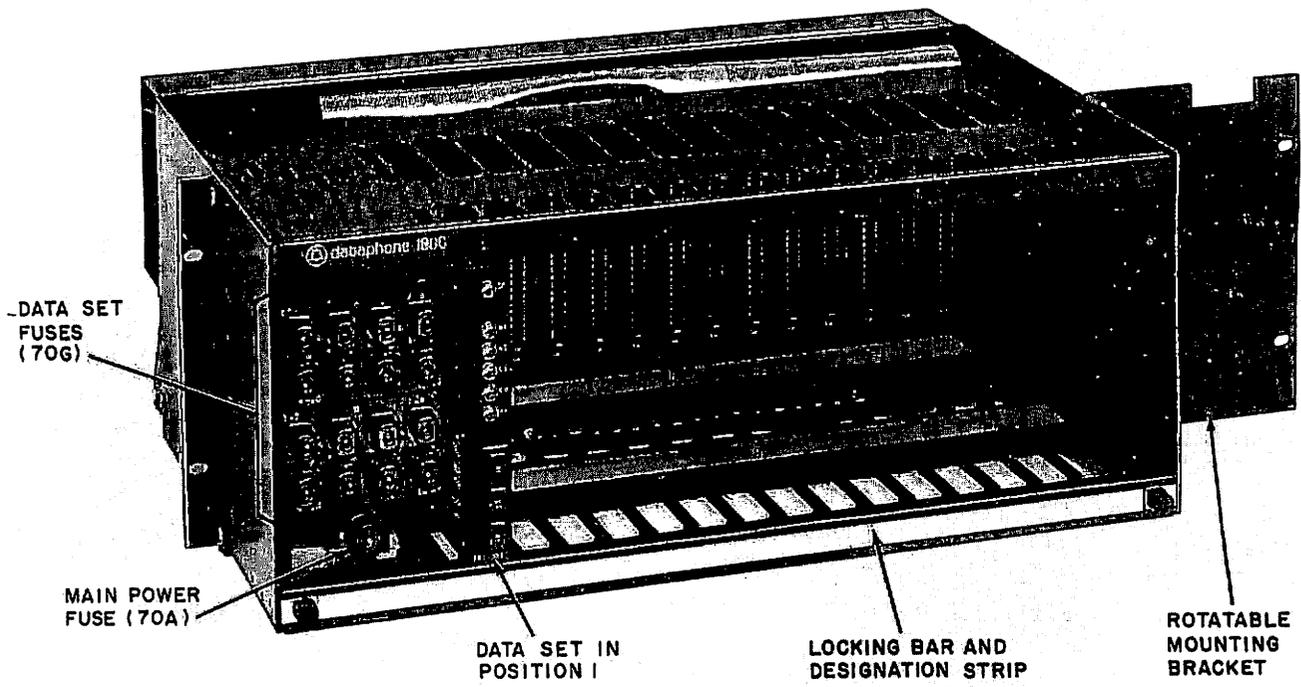

Fig. 3—40B1 Data Mounting (Shown for 23-Inch Mounting)
**2.06** The 40B1 data mounting (Fig. 3) is primarily for use with data set 202T. Every slot in the mounting is wired, making it possible to install up to 16 single-width data sets (without reverse channel) or eight double-width data sets (with reverse channel).